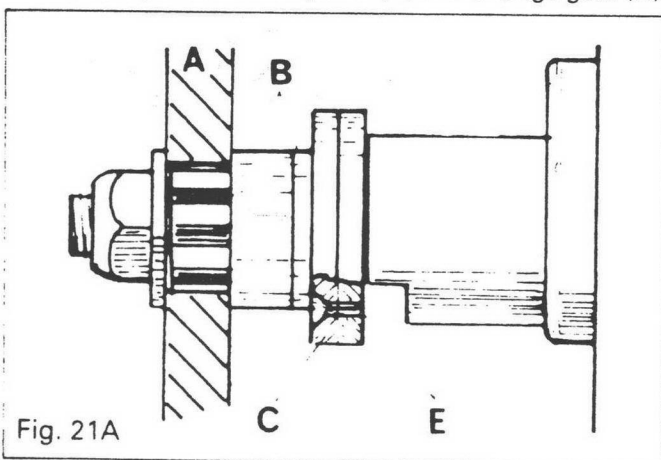

Fig. 21A
Gearbox Drive Shaft (Fig. 21A). Isolate electrical supply and remove endguard. Remove driven gear (A) and spacer (B) exposing bush (C). Withdraw sheared pin head from bush and remove bush. Push rest of shear pin through the locating hole (E) in drive shaft.